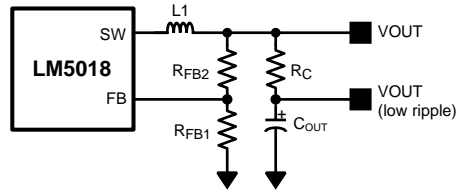

Figure 13. Low Ripple Output Configuration
This regulator regulates the output voltage based on ripple voltage at the feedback input, requiring a minimum amount of ESR for the output capacitor (C_{OUT}). A minimum of 25 mV of ripple voltage at the feedback pin (FB) is required for the LM5018. In cases where the capacitor ESR is too small, additional series resistance may be required (R_C in Figure 13).
For applications where lower output voltage ripple is required the output can be taken directly from a low ESR output capacitor, as shown in Figure 13. However, R_C slightly degrades the load regulation.